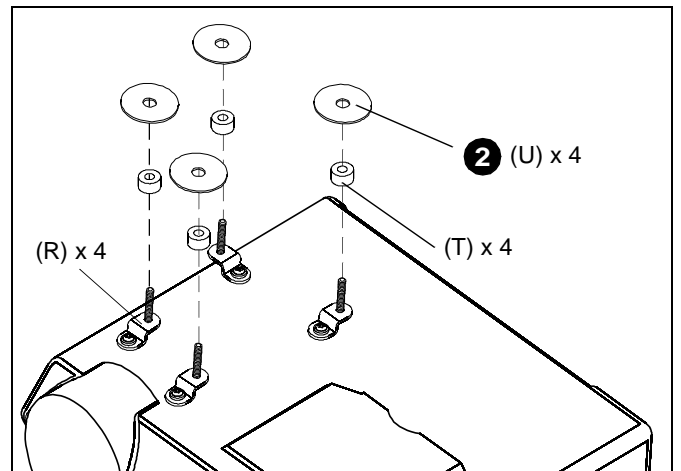

Figure 7
- Add washers (U) to the projector security legs (R). Add spacers (T) as necessary to the projector security legs (R). (See Figure 7)